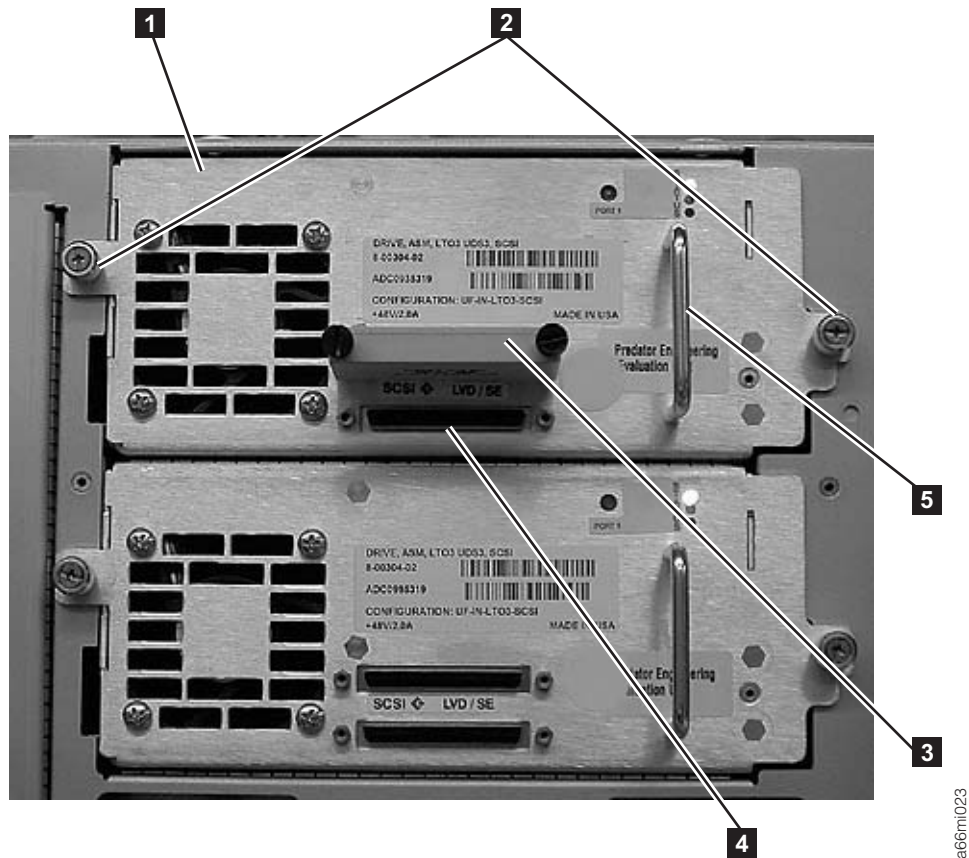

Figure 3-7. SCSI Drive Sled (detail)
1. Loosen the two thumb screws (**2** in Figure 3-7) that hold the drive sled in place by turning them counterclockwise.
2. To remove the drive sled, grasp the handle (**5** in Figure 3-7) and slowly pull it toward you, while supporting the drive sled from underneath.